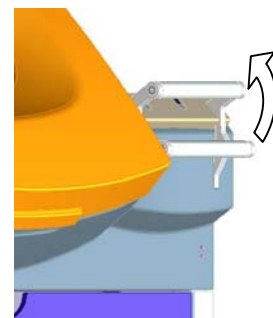

Fig. 60
- A biopsy chamber locked for operation is now unlocked during the currentless state and can now easily be opened manually by lifting the locking mechanism (fig. 60).